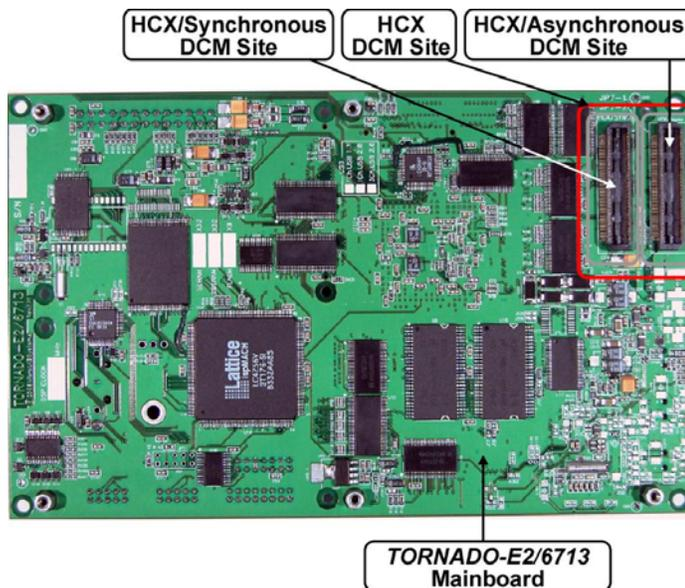

Figure E-1. *HCX* DCM site of *TORNADO-E2/6713* board.
*HCX* DCM site is located at the bottom side of *TORNADO-E2/xxxx* board (Figure E-1) and does not block installation of *PIOX2* and *SIOX/ASIOX* DCMs for expansion of DSP real-time I/O resources. *HCX* DCM site interface include two high-density connectors (i.e. JP7-1 and JP7-2 for *TORNADO-E2/xxxx* board).